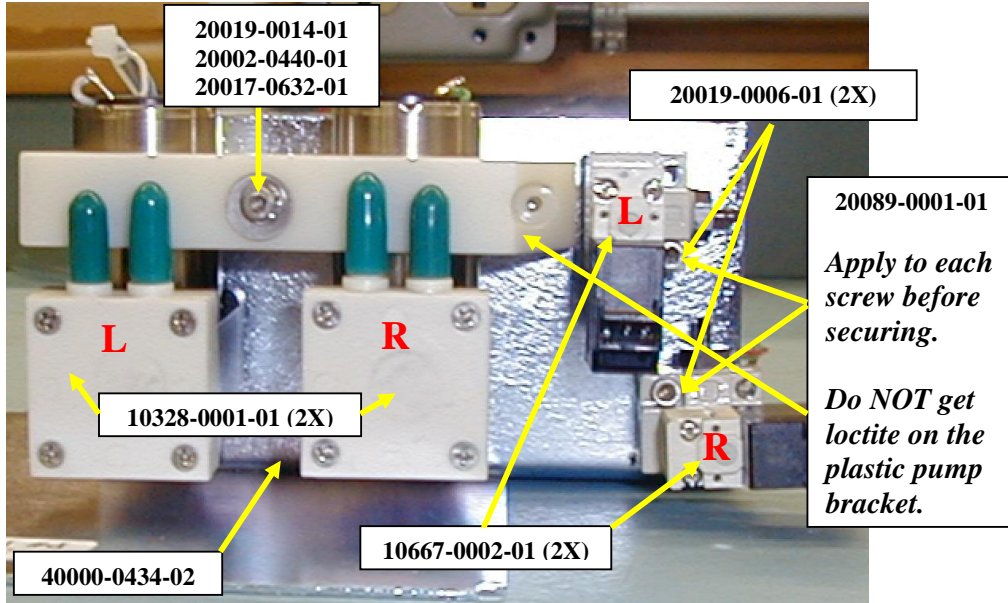

Figure 6
- 1.8. Mount the Air Compressor assembly onto the Rear Inner Divider using (1) 4-40x7/8" Socket Head Cap Screw (20019-0014-01), (1) 4-40 Lockwasher (20002-0440-01), and (1) 6-32 Flatwasher (20017-0632-01) as shown in Figure 6. Use an Allen wrench to tighten.
- 1.11. Mount the (2) 3-way SMC Valves onto the Rear Inner Divider with (2) 4-40 x 3/8" Socket Head Cap Screws (20019-0006-01) using Loctite (20089-0000-01) sparingly as shown in Figure 6.